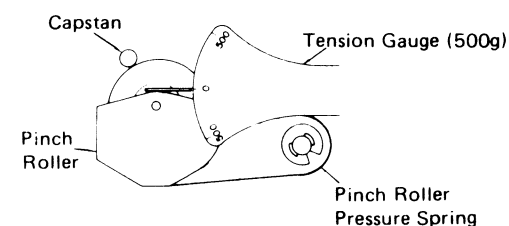

Figure 11-3
- 2) Push the pinch roller, at the point shown in Figure 11-3, by using a tension gauge (500 g) so that it will come off the capstan. Then, slowly release the tension until the pinch roller hits the capstan again (i.e., the pinch roller is about to rotate again). Check, then, the tension gauge is reading 350 g to 420 g.